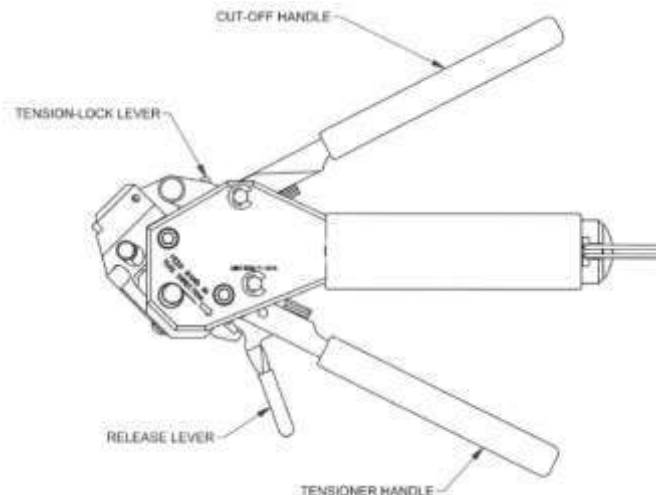

Figure 26
- (28) Secure braid to backshell using band clamp and tool (Figure 26) specified in the Tooling and Parts lists in the front of this section and band clamp as specified in Section 7 - Wiring Harness Parts List, as follows: